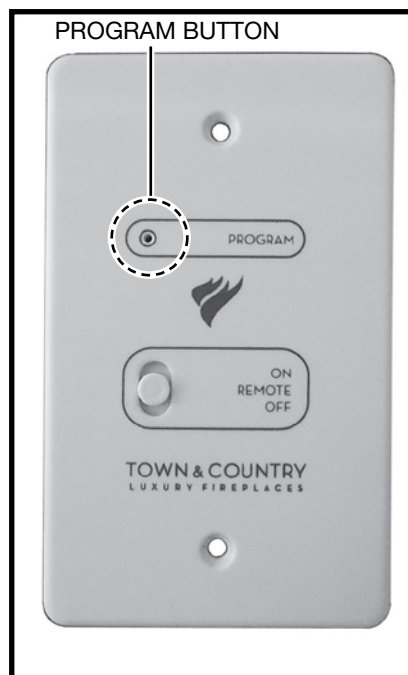

Figure 25: Town and Country wall switch.
2. Press and hold **Program** button (Figure 25) on the wall switch for up to 10 seconds. Use a straightened paper clip to access the button.